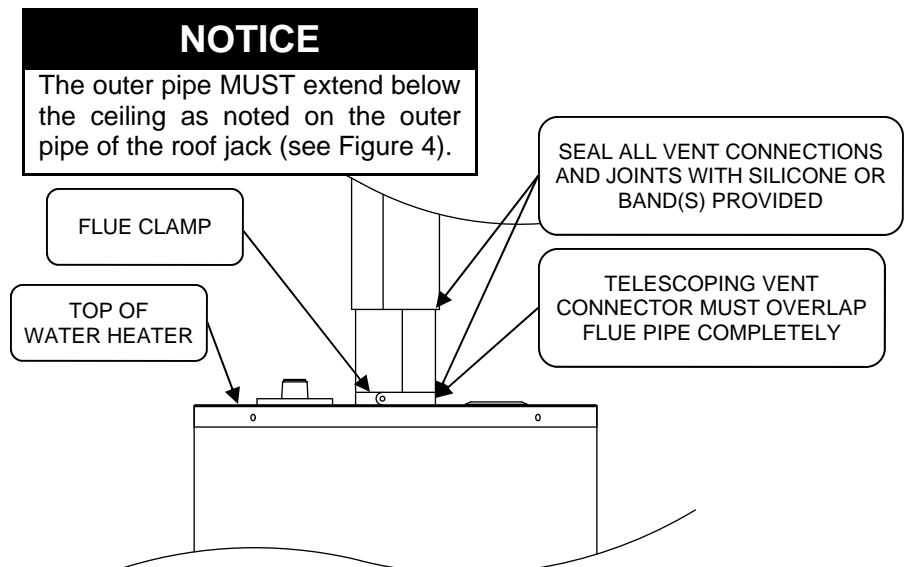

Figure 5
Step 14. Slip the Ø3" vent connector extension (shipped telescoped in the roof jack) down over the flue pipe which extends above the water heater (see Figure 5).
Step 16. Clamp the vent connector extension to the water heater flue pipe with the clamp provided (see Figure 5).